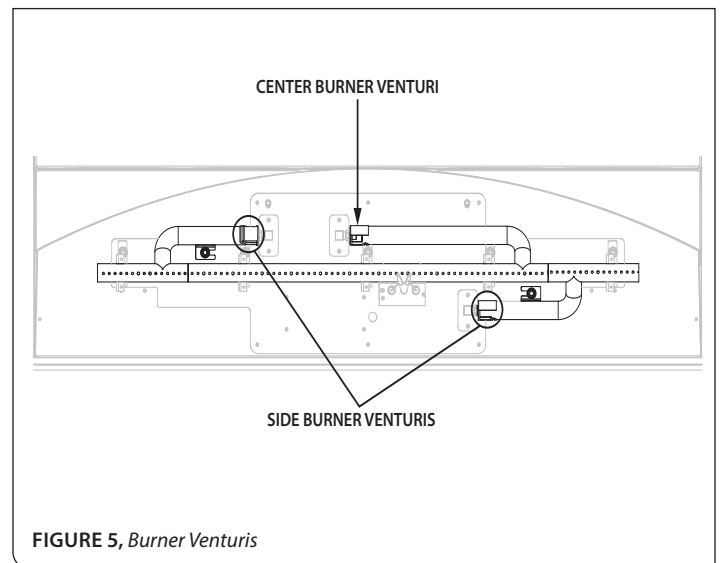

FIGURE 5, Burner Venturis
- Step 1: Adjust the burner venturis. Loosen the screw securing the venturi cap and adjust to the correct setting. See **FIGURE 5** and **TABLE 2**.